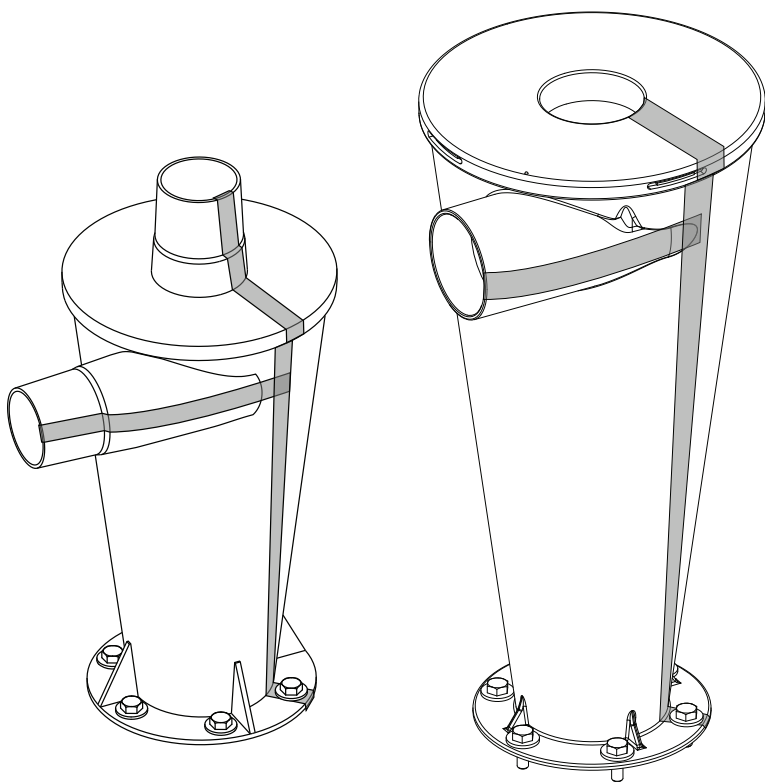

FIG. 12
Install the Metal Tape (D) to the Cyclone (A) so that the inlet, outlet, and flange are attached by a continuous, conductive path. The tape should wrap 1/4" around the edge of each opening [FIG 12].